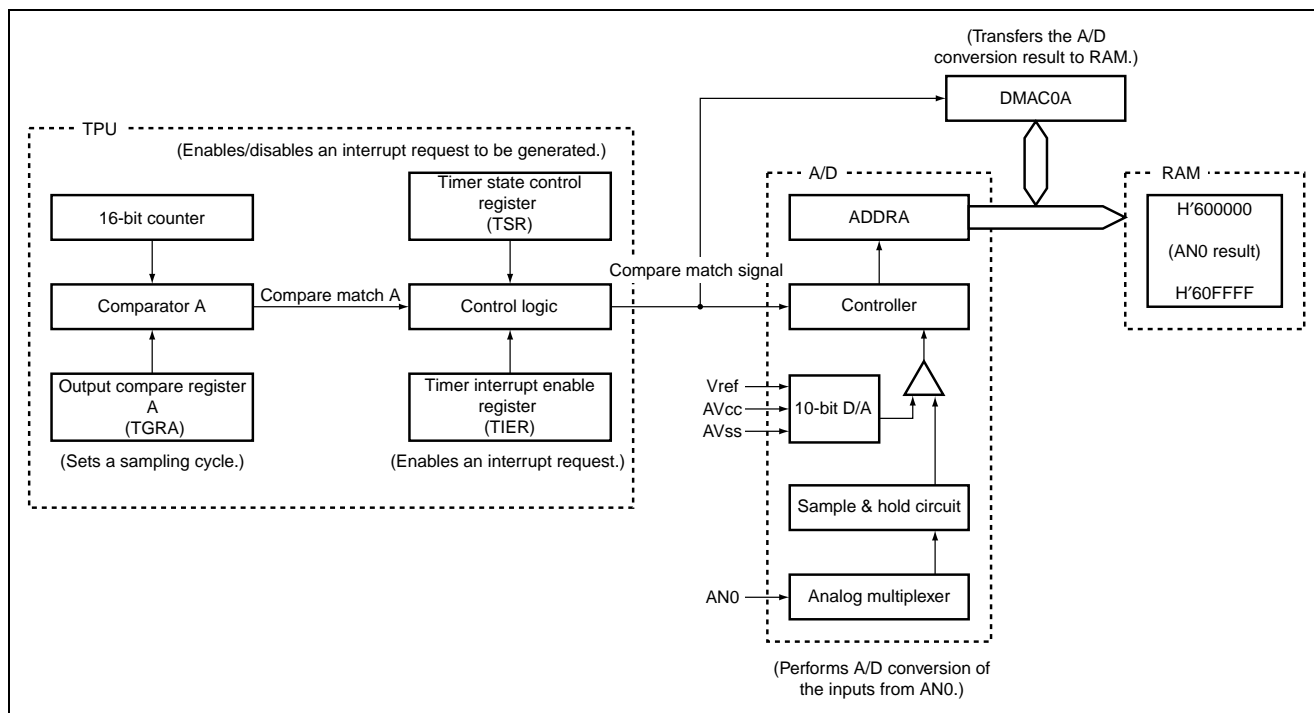

Figure 2 Block Diagram of A/D Conversion by Timer Trigger
1. The block diagram of the DMAC, A/D converter, and TPU to be used by this sample task is shown in figure 2.